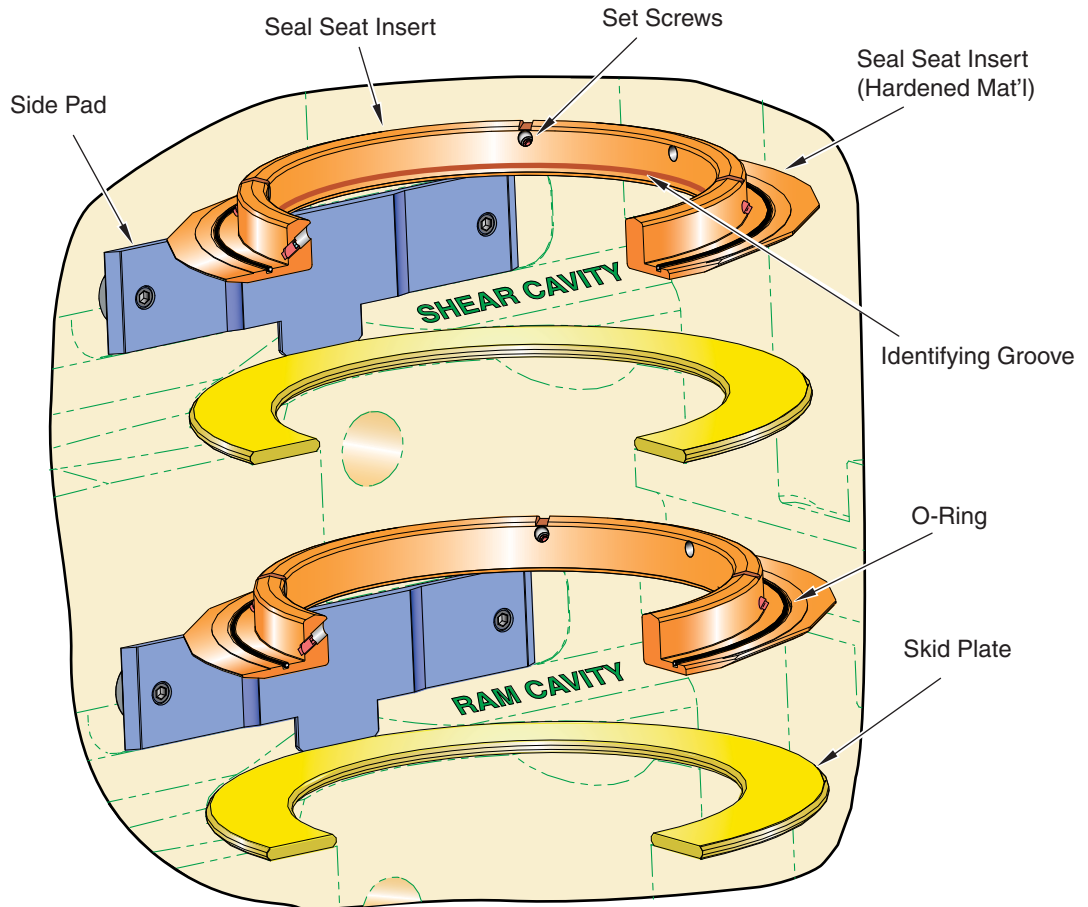

Figure 5-90. Seal Seat and Side Pads
The inside of the BOP cavity has a replaceable seal seat insert, two side pads and a skid plate (see Figure 5-90). Cavities that have shear ram installed have a different part number seal seat. The seal seat insert used on the shear cavity is of a hardened material that is more compatible with the hard material used on the shear ram assemblies.
To help identify the hardened seal seat, a groove is cut into the bore of the seal below the set screws when installed (see Figure 5-90).
7. Install a new O-ring on the seal seat insert (see Figure 5-90 on page 5-117).
1. Remove the two socket head cap screws from the side pad using a $\frac{1}{2}$ " hex wrench. Remove the side pads, taking care not to drop the side pad into the cavity (see Figure 5-90 on page 5-117).